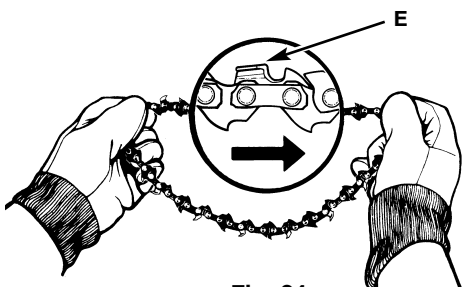

Fig. 24
1. Spread chain out in a loop with cutting edges (E) pointing CLOCKWISE around loop (Fig. 24).
1. The Chain Brake® is **DISENGAGED** (chain can move) when **BRAKE LEVER IS PULLED BACK AND LOCKED** (A, Fig. 24).